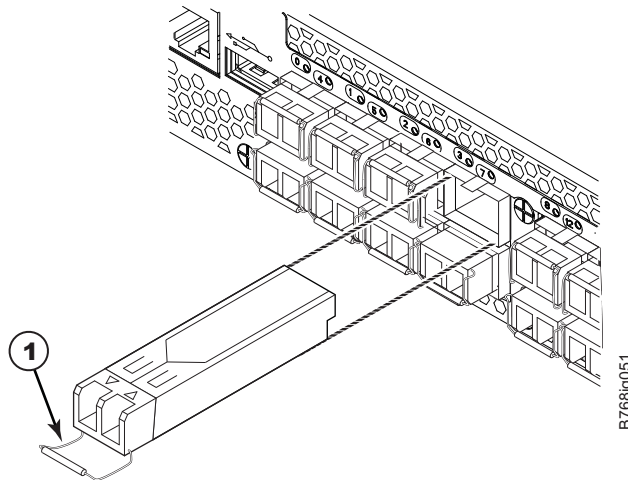

Figure 39. Removing and replacing an SFP+ optical transceiver with a wire bail
2. Using the hooked end of the tool, pull the bail (wire handle) **1** away from its pivot point and out, sliding the transceiver out of the port (Figure 39 on page 106).
1. For SFPs and SFP+ transceivers with wire bails, make sure that the bail (wire handle) is in the unlocked position. Align the optical transceiver so that the key is oriented correctly to the port (Figure 39). Insert the transceiver into the port until it is firmly seated and the latching mechanism clicks, and then close the bail.